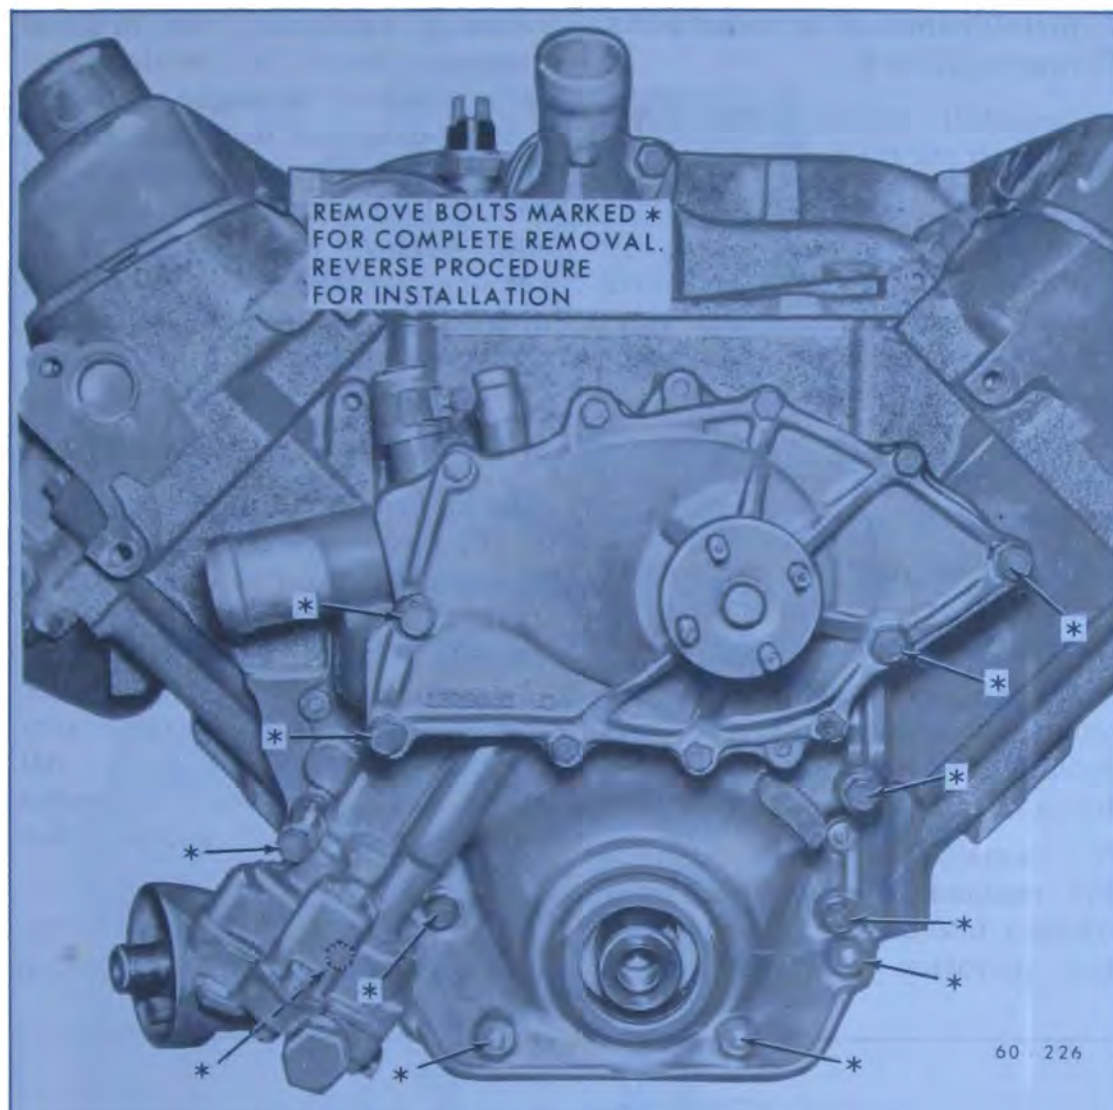

Figure 60-333—Timing Chain Cover Installation
4. Lubricate the bolt threads before installation and install as shown in Figure 60-333. Torque bolts to 30 lb. ft.